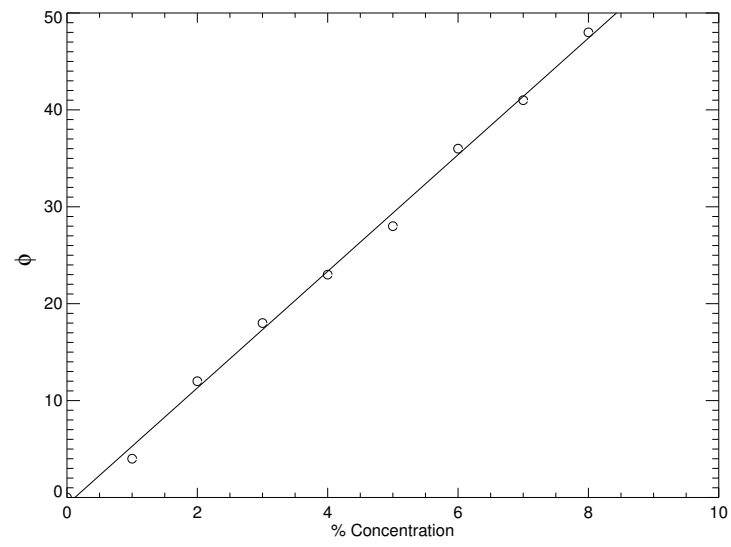

Figure 1: Sample plot
- iii. From the graphed results in Figure 1, one obtains an approximately linear relationship between milk concentration, C , and scattering angle, $2\theta'$ ($= \phi$) of the form